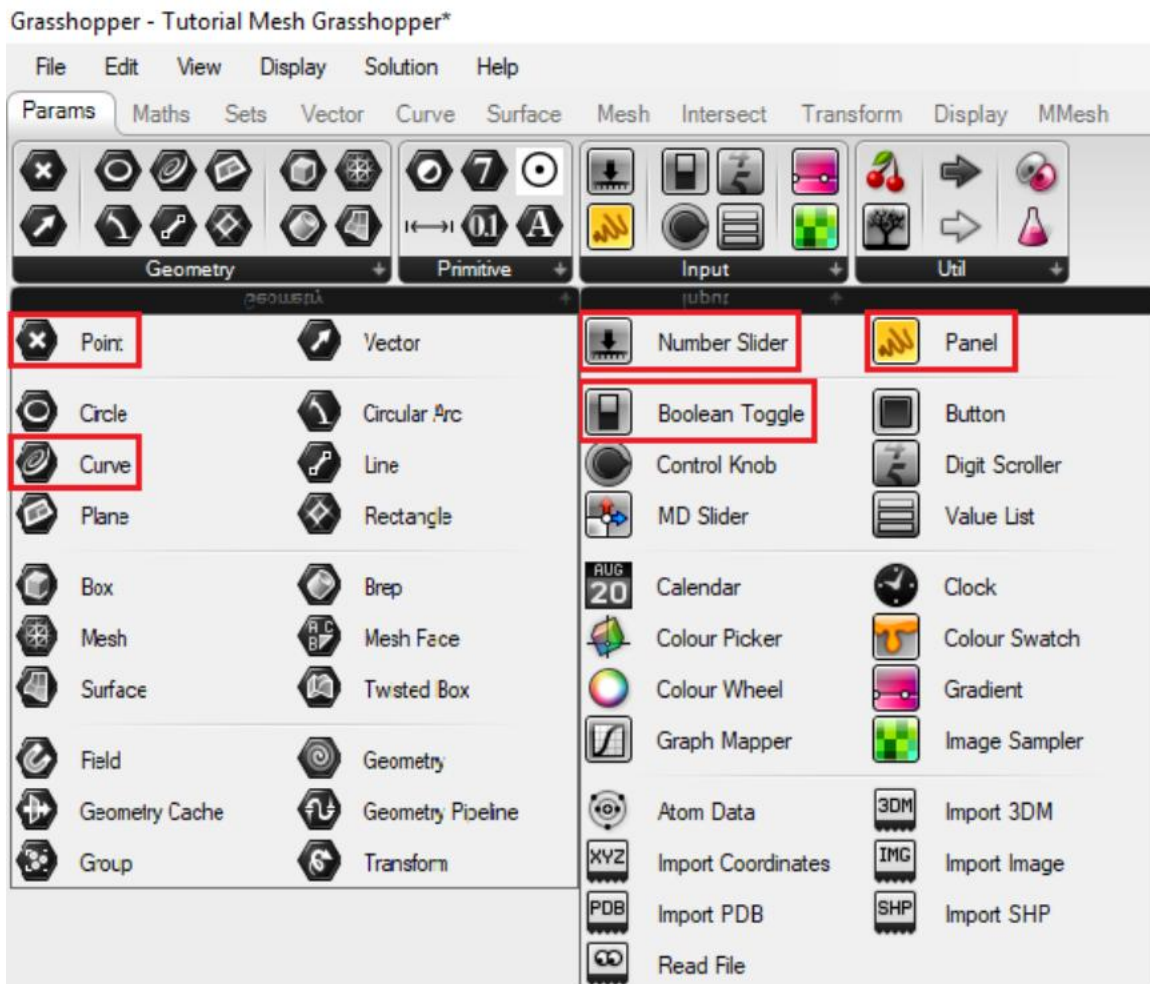

Figure 23. Grasshopper components used to create the finite-element mesh.
In order to complete the mesh, additional components are needed: one (1) "Panel", five (5) "Number Sliders", one (1) "Boolean Toggle", one (1) "Curve", one (1) "Point", and one (1) "Merge". All of these components, except for the "Merge" component, can be found on the "Params" tab under the "Geometry" or "Input" groups (Figure 23).